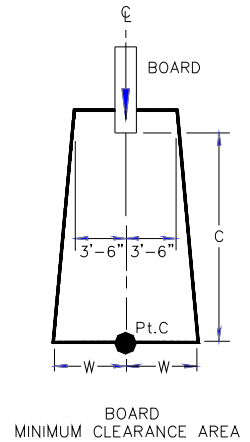

FIG. 35
- B. The minimum clearance area in front of a properly installed diving board on an inground swimming pool is a minimum distance of three feet six inches (3'-6") on either side of the board's centerline as shown in **FIG. 35**. Pt. C extends a minimum distance of "C" from the tip end of the board as shown in **FIG. 35**. The width distance "W" on either side of Pt. C is given in **CHART 1** and shown in **FIG. 35**.